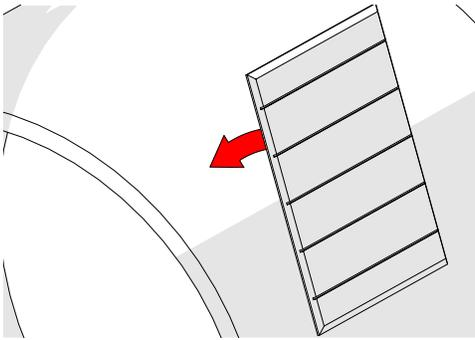

Fig. 214 - Place installation/removal mat
3. Place the installation/removal mat (Fig. 14) on the inspection surface (Fig. 214).